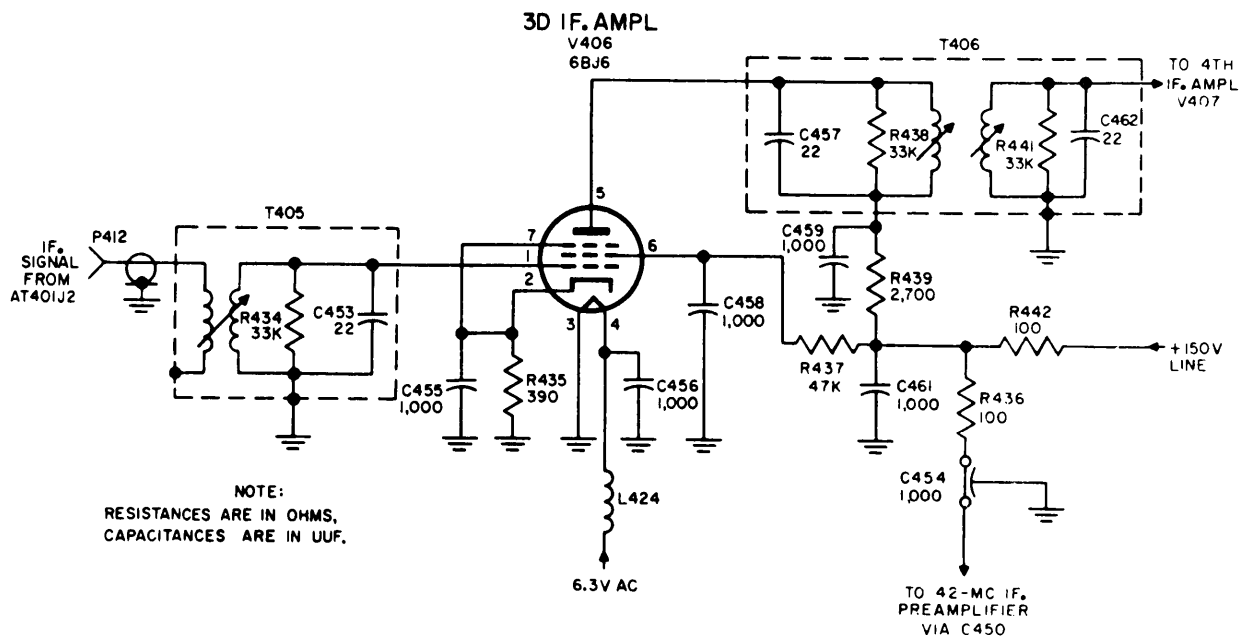

Figure 31. Tuning unit 3, third if. amplifier V406, schematic diagram.
(fig. 31 and 32)
a. *Interstage Transformers T405* (fig. 31). The attenuated if. signal at connector AT401J2 on the if. step attenuator is conducted through connector plug P412 and a length of coaxial cable, to the primary winding of interstage transformer T405. The primary winding has a 50-ohm impedance. The secondary winding and shunt capacitor C453 resonate together at the intermediate frequency, with R434 functioning as a load resistor. The transformer T405 secondary is connected to the grid of third if. amplifier V406.
(1) Cathode bias is developed by the voltage drop across R435 in the third if. amplifier (fig. 31). Cap-